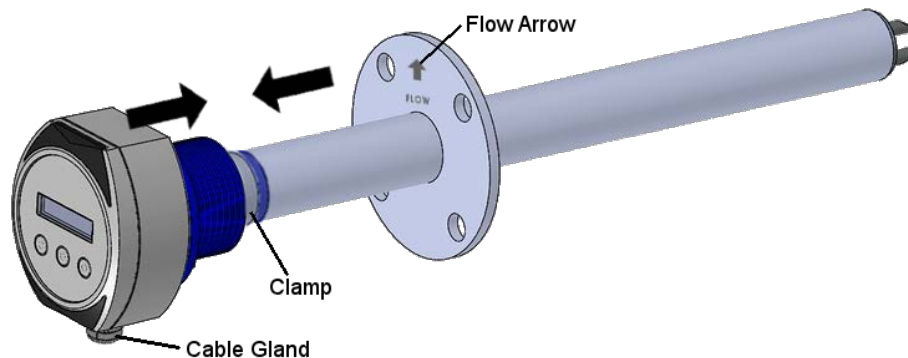

Figure 5-9 - Assemble Head Housing to Probe Body
- d. Ensuring the clamp is fitted over the head housing shoulder and with the flow direction arrow on the flange pointing upwards, carefully slide the probe body into the head housing; refer to Figure 5-9.